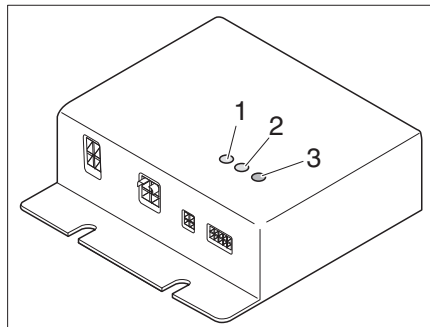

Fig. 303 Control unit
The control unit (Fig. 303) is installed in the wardrobe. The control lamps on the control unit have the following meanings:
- The indicator LED (Fig. 303,1) HC1 lights up in green: Heating circuit 1 is operating
- The indicator LED (Fig. 303,2) HC2 lights up in green: Heating circuit 2 is operating
- Fault LED (Fig. 303,3)